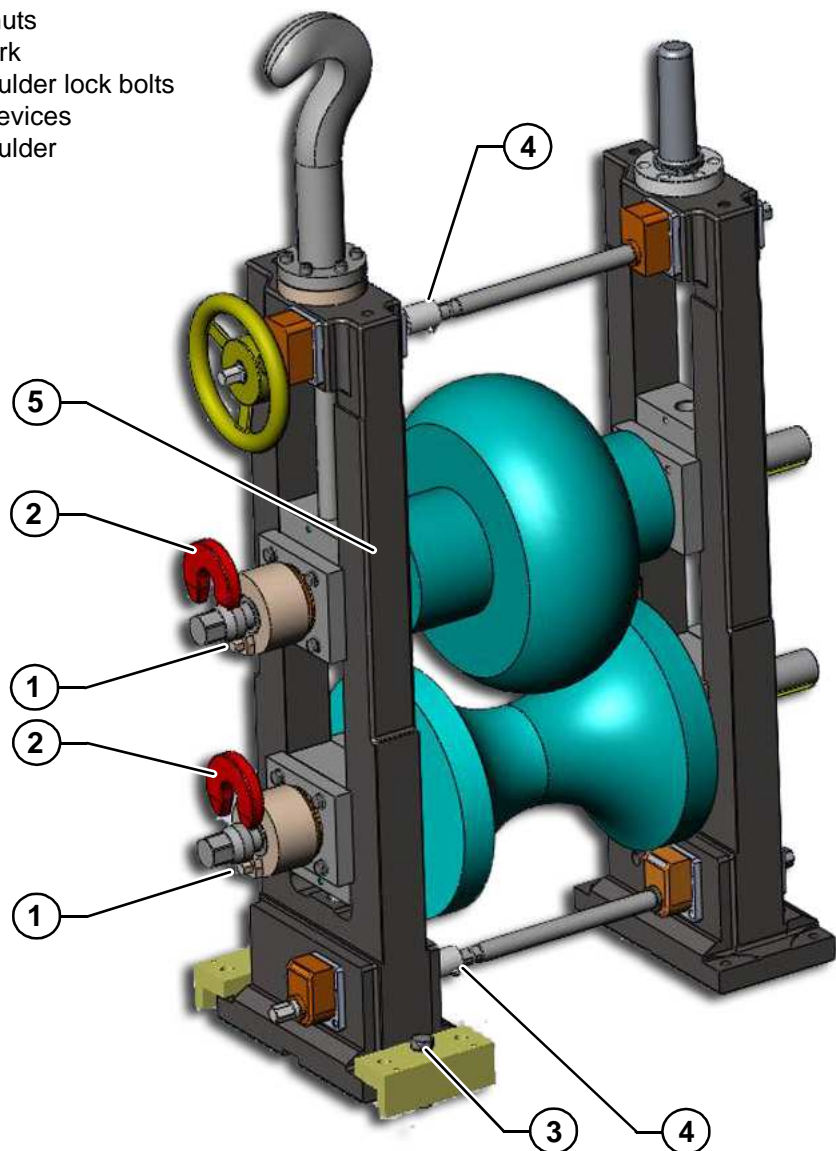

Fig. 2-A Mobile shoulder extraction: phase 1
- 1- Loosen the hydraulic nuts pos.1 in *Fig. 2-A*, located on the lower and upper shafts
- 2- After removing the nut, remove the contrast fork pos.2
- 3- Loosen the mobile shoulder lock bolts pos.3 and release the coupling device pos.4 from the top and bottom